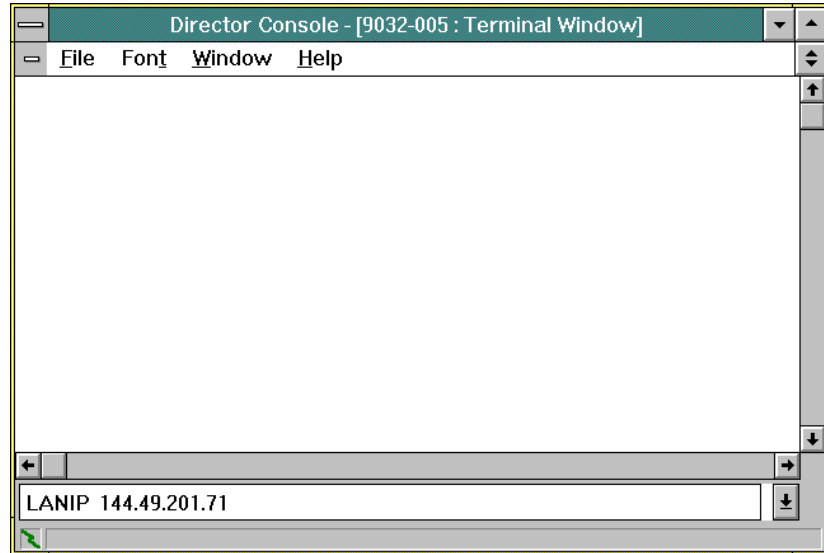

Figure 10-15. Terminal Window
2. Select the *Open Active Configuration Matrix* option from the *File* menu. The *Select Active Director* dialog box appears (Figure 10-15).
5. Type a maintenance authorization password (default is **LEVEL002**) and click the *OK* button. The *Terminal* window appears (Figure 10-15).